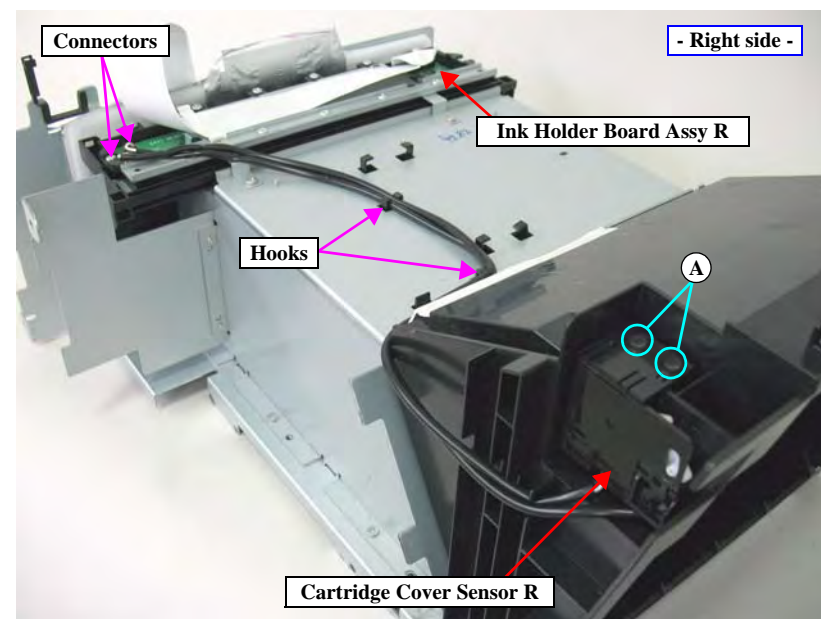

Figure 4-42. Removing the Cartridge Cover Sensor R
9. Release the harness from the two hooks. See Figure 4-42.